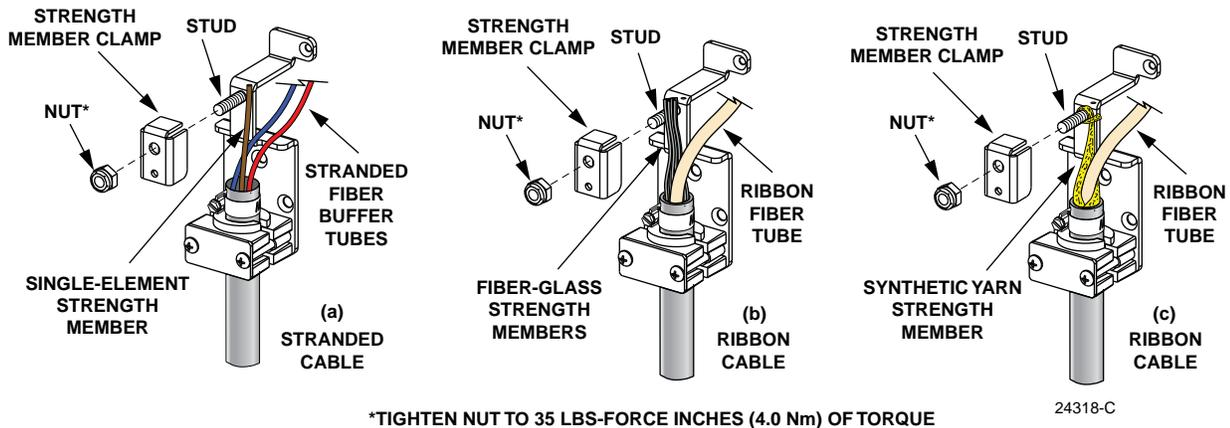

Figure 29. Strength Member Clamp Installation
15. Disassemble the cable strength member clamp as shown in Figure 29. For stranded cable, the strength member will usually consist of a single element. For ribbon cable, the strength member may consist of a stranded fiberglass sheath or yellow synthetic fiber yarn.